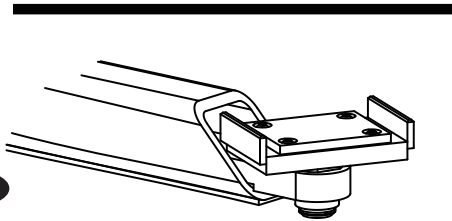

Fig. 1
2. Spot vehicle over lift. Make sure you are using the correct adapter, Fig. 1.